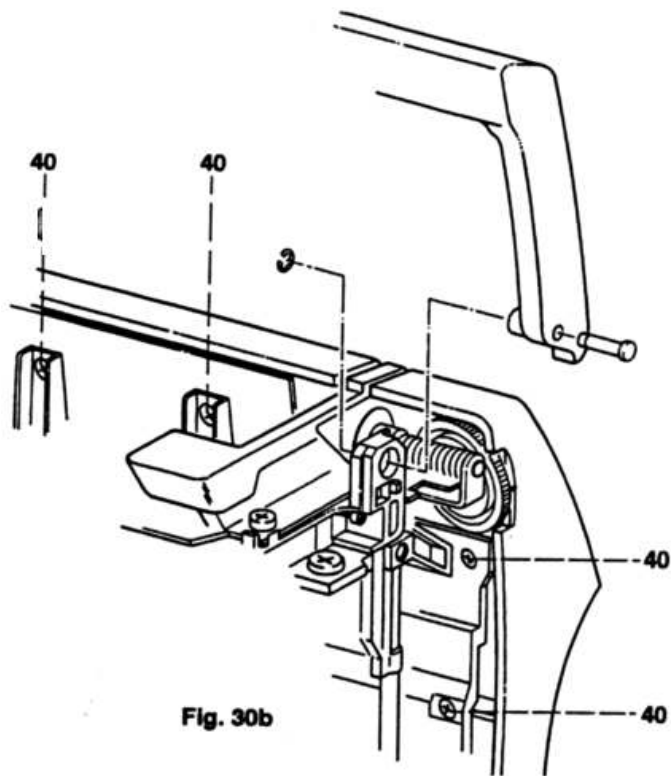

Fig. 30b
- Remove the circlip of the retaining pin (fig. 30b).